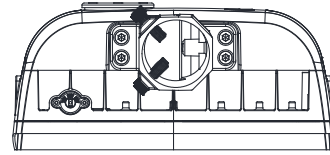

figure 6.5
Step 2: Adjust the handle to the desired Angle by turning it left and right, as shown in the picture. (figure 6.5)